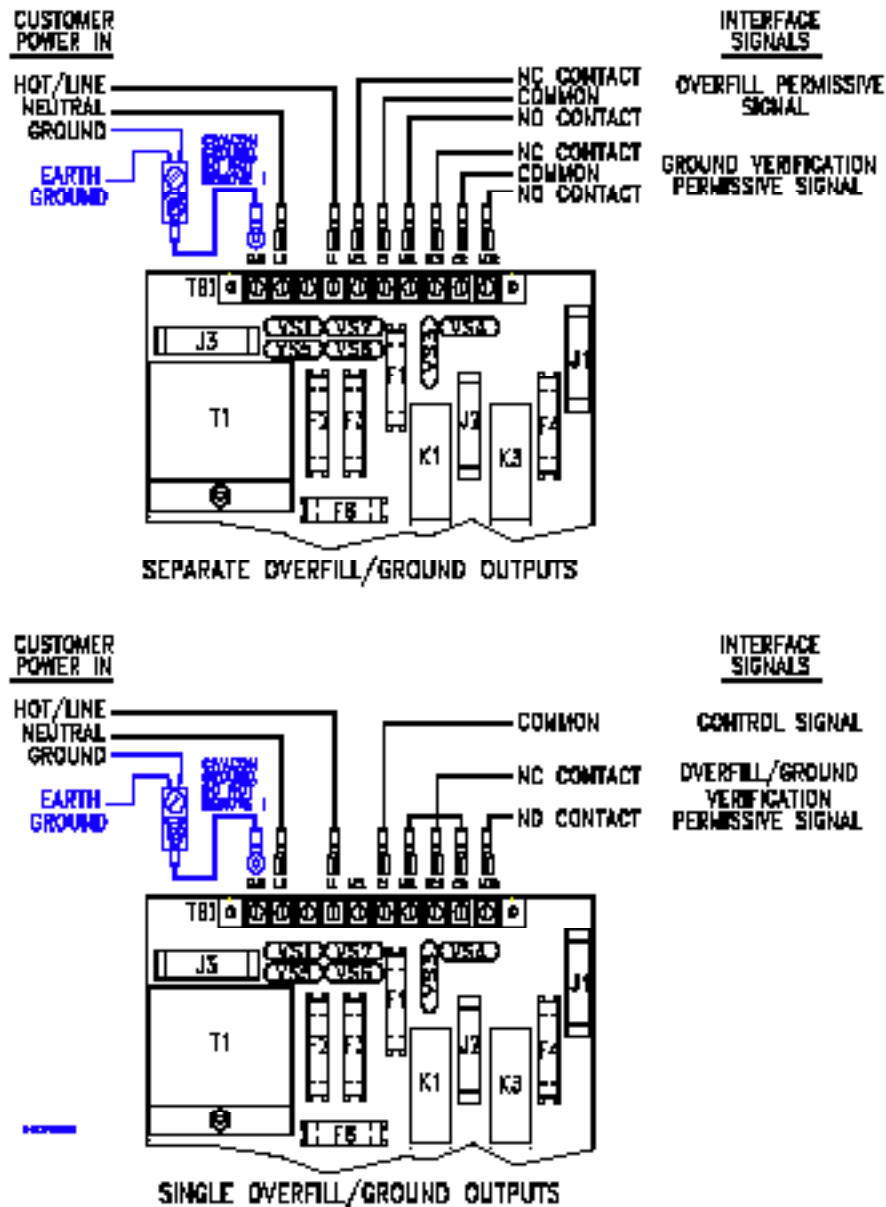

FIGURE 3 - POWER WIRING
Three terminals are provided for the overflow permissive signal on the monitor. These are C1 (COMMON 1), NC1 (Normally Closed 1), and NO1 (Normally Open 1), Form C type contacts. The proper control signal source must be wired to these terminals. It is suggested that the control signal source be wired into the C1 (COMMON 1) terminal, as it is the fused control terminal. The wire going to the controlled device should then be connected to the NO1 (or NC1 if applicable) contact of the terminal strip. See Figure 3.
Three terminals are also provided for the ground verification permissive signal. These are C2 (COMMON 2), NC2 (Normally Closed 2), and NO2 (Normally Open 2), Form C type contacts. The proper control signal source must be wired to these terminals. It is suggested that the control signal source be wired into the C2 (COMMON 2) terminal, as it is the fused control terminal. The wire going to the controlled device should then be connected to the NO2 (or NC2 if applicable) contact of the terminal strip. See Figure 3.
If two separate control outputs are not desired, the two outputs may be combined into a single output. This is accomplished by wiring the control signal source to the C1 (COMMON 1) terminal, connecting a jumper between the NO1 (Normally Open 1) terminal and the C2 (COMMON 2) terminal. The wire going to the controlled device should then be connected to the NO2 (or NC2 if applicable) contact of the terminal strip. See Figure 3.
The monitor must be wired according to Figure 3.
1. Before applying AC line power to the 81/83/84X0 Series Rack Monitor, perform a visual inspection of the power and control wiring according to Figure 3.